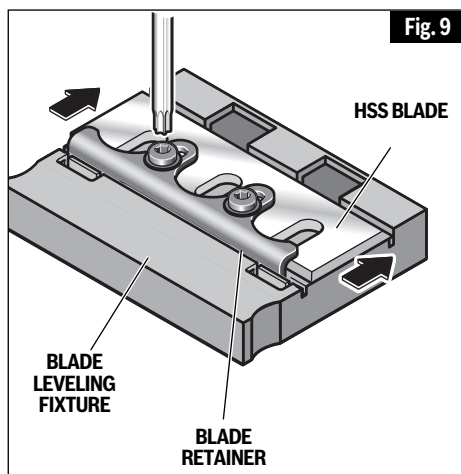

Fig. 9
1. Place the blade and blade retainer on the leveling fixture and make sure that the blade retainer engages in the grooves intended for this purpose. (Fig. 9)